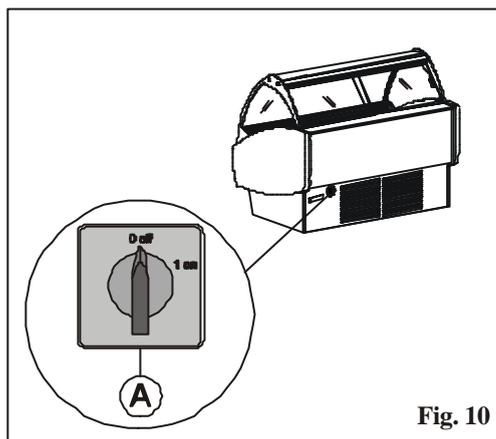

Fig. 10
To stop the machine completely, activate the switch (A) that is situated behind the back protection panel. Position the general switch to “0” (fig. 10 pos. A) cutting off the electrical supply of the display cabinet.